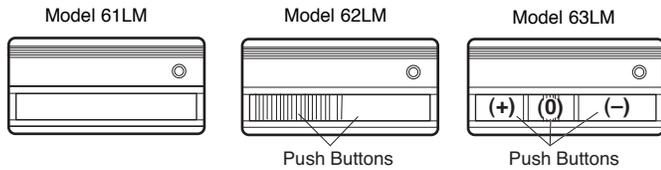

**Figure 1**
**NOTE:** Code switch #1 on the three-button remote control is dormant, when used with a single-button remote control. Set code switch #1, in the single-button remote control, to match the push button selected on the three-button remote control (Figure 1).